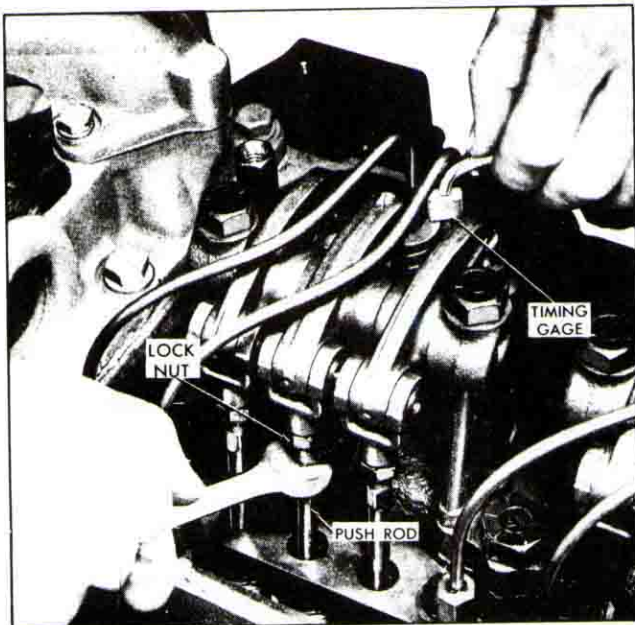

Fig. 8 - Timing Fuel Injector
3. Place the small end of the injector timing gage in the hole provided in the top of the injector body with the flat of the gage toward the injector follower, as shown in Fig. 8.